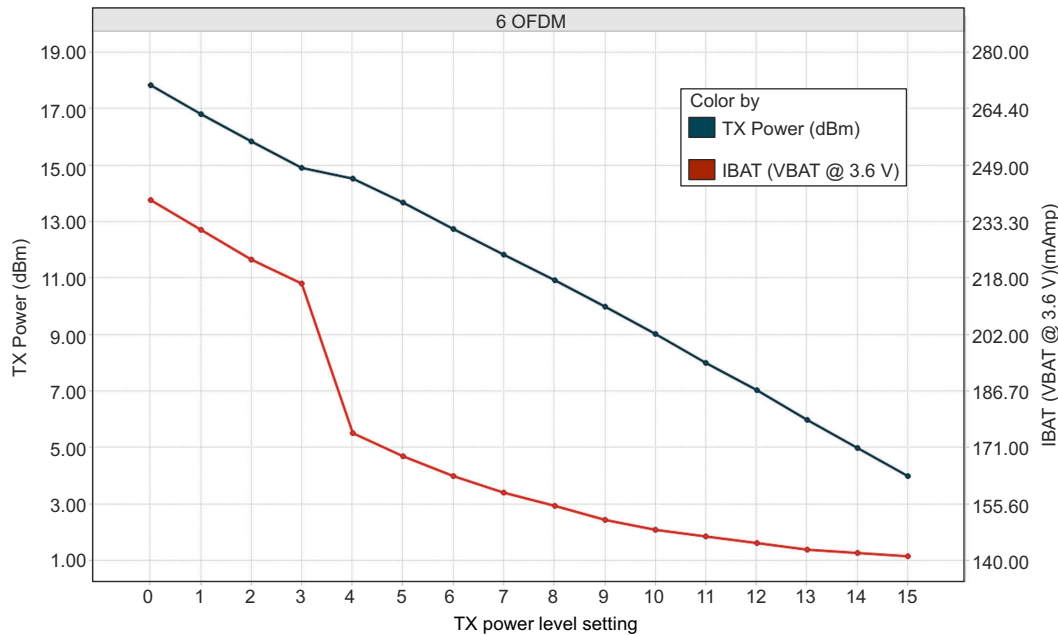
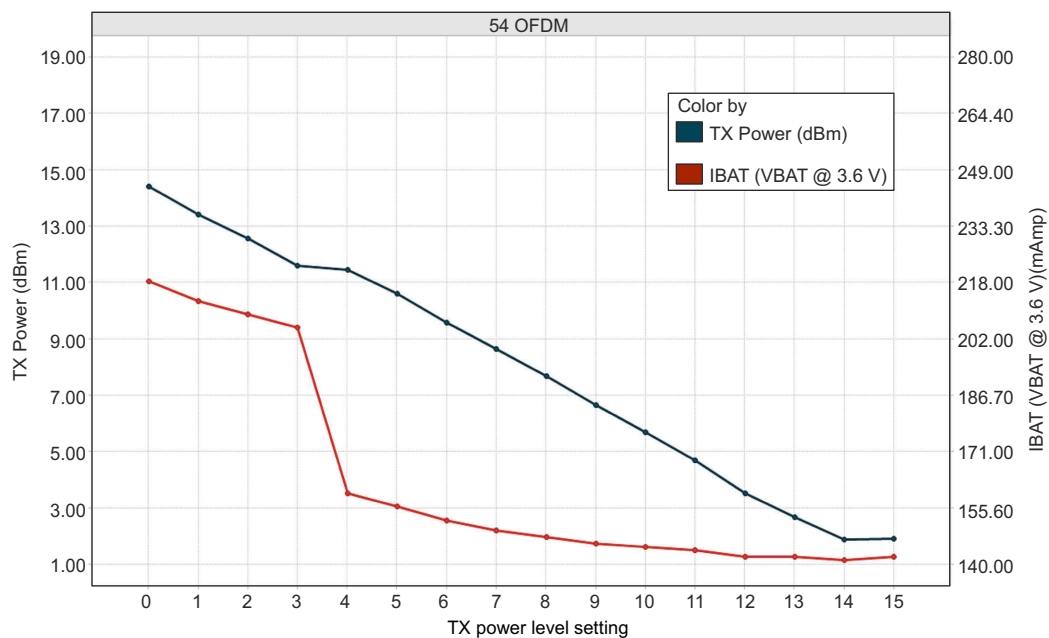

Figure 7-2. TX Power and IBAT vs TX Power Level Settings (6 OFDM)
Figure 7-3. TX Power and IBAT vs TX Power Level Settings (54 OFDM)
- (1) TX power level = 0 implies maximum power (see Figure 7-1, Figure 7-2, and Figure 7-3). TX power level = 4 implies output power backed off approximately 4 dB.
- (2) DTIM = 1
- (3) The complete calibration can take up to 17 mJ of energy from the battery over a time of 24 ms. In default mode, calibration is performed sparingly, and typically occurs when re-enabling the NWP and when the temperature has changed by more than 20°C. There are two additional calibration modes that may be used to reduced or completely eliminate the calibration event. For further details, see CC3120, CC3220 SimpleLink™ Wi-Fi® and IoT Network Processor Programmer's Guide.
- (4) The CC3120R system is a constant power-source system. The active current numbers scale based on the V_{BAT} voltage supplied.
- (5) For the 1.85-V mode, the hibernate current is higher by 50 μA across all operating modes because of leakage into the PA and analog power inputs.
- (6) The RX current is measured with a 1-Mbps throughput rate.